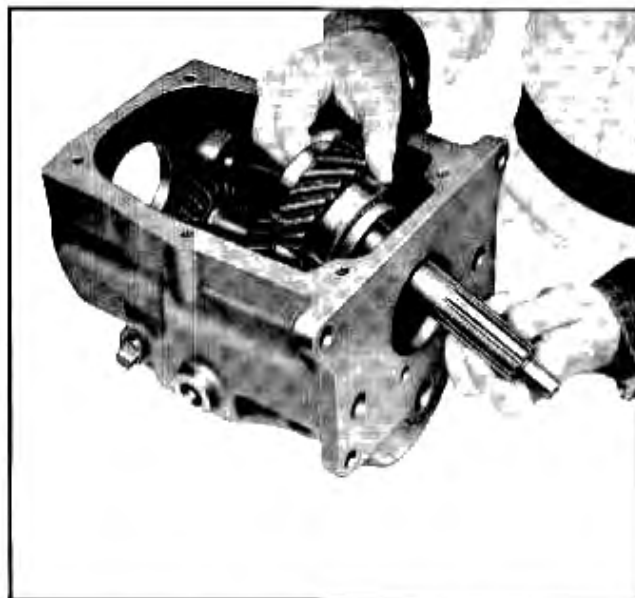

Fig. 7-18 Removing Main Drive Gear
15. Remove snap ring from main drive gear bearing and tap drive gear bearing assembly toward rear of transmission case to remove (See Fig. 7-18).